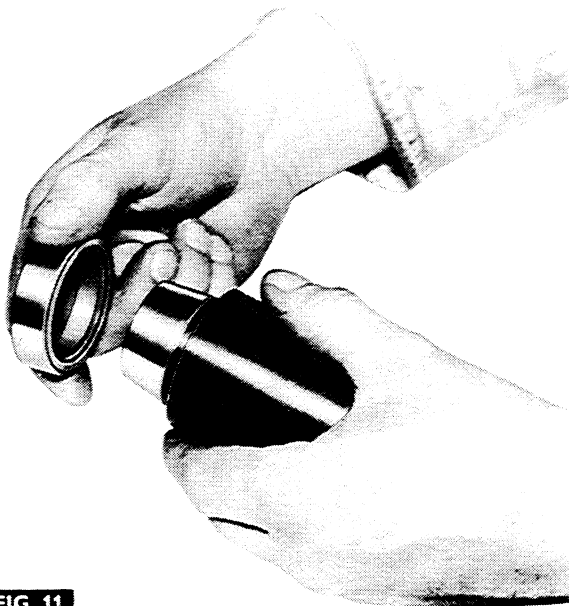

FIG. 11
- Fig 11. Assemble special tool MF 255B, then slide the oil seal (32) (metal face first) on to the tool.
- Refit the two rings (39) to the input shaft (38), ensuring that the interlocking ends of the rings are properly engaged.
- Slide the p.t.o. input shaft (38) into the housing, securing it with the large snap ring (41).
- Carefully slide the special tool MF 255B on to the p.t.o. input shaft, then drive the seal (32) fully into place.
- Refit the spool valve (24) to the input housing with the four Allen screws (22) and lockwashers.
- Fit a new 'O' ring (35) to the rear spigot of the input housing.
- Fit the seal protector MF 177 on the front of the main input shaft (54), then carefully slide the input housing assembly into place.